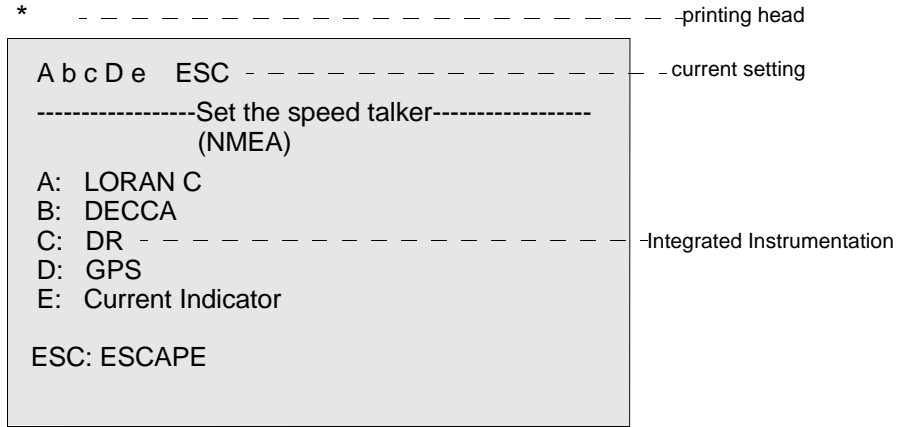

Figure 19. Main Menu Printout
54. The speed talker will print out (figure 19).